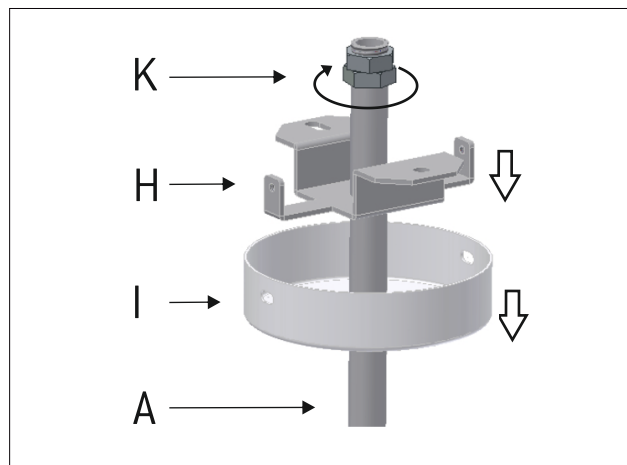

Figure 9
9 - Insert the cover (I) and the mounting bracket (H) into the stem (A). Use a tape to keep the cover in place and protect it from scratching. Screw both nuts (K). Repeat the same operation for the other stem. Figure 9.